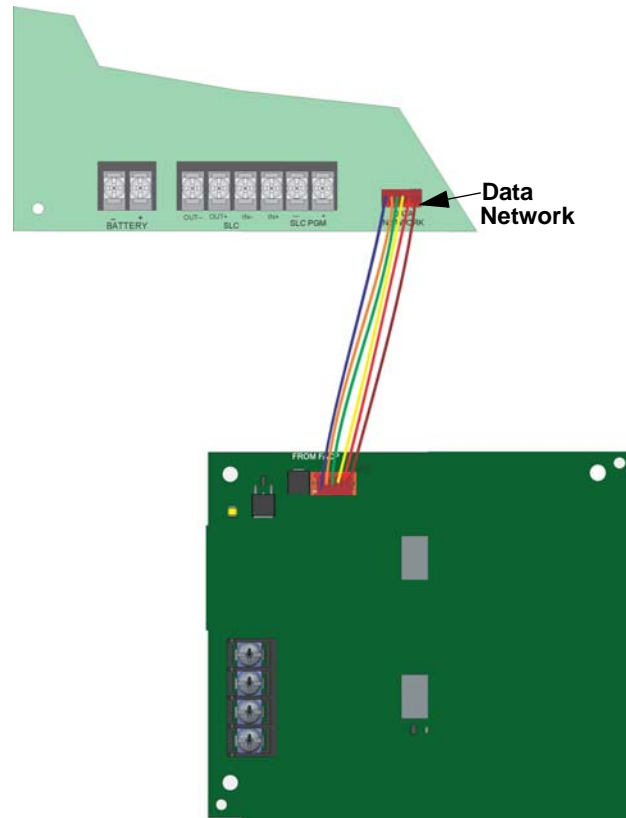

Figure 5-6 Panel to SK-NIC connection
- Use the 6-pin cable included with SK-NIC to connect the 6820/EVS to the SK-NIC. Connect the SK-NIC to the pin connector on the control panel labeled Data Network. See Figure 5-6.